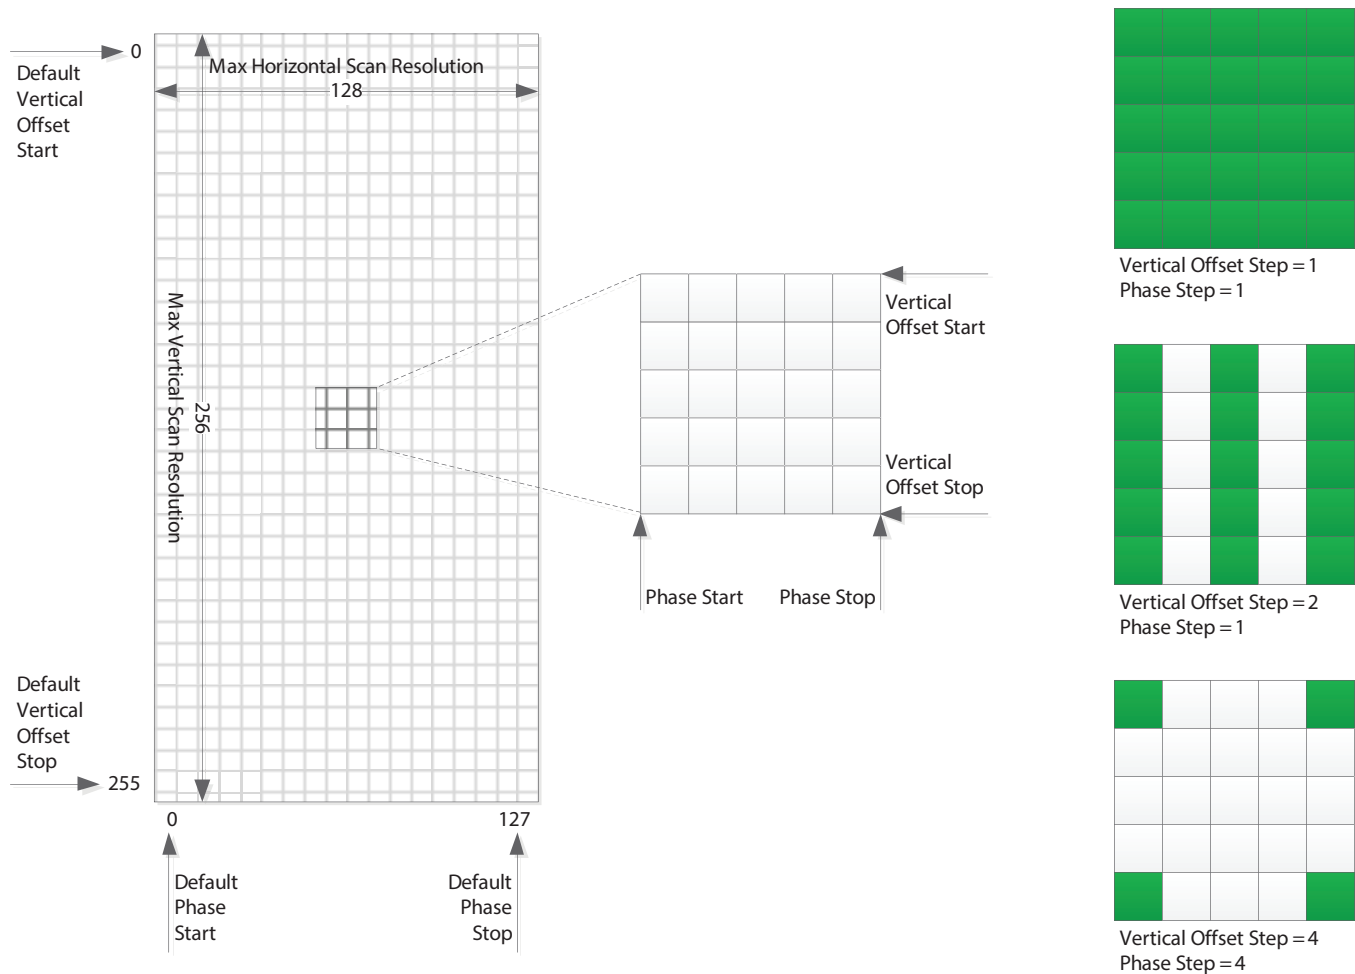

Figure 4-6: Eye Scan Matrix Parameters
Figure 4-6 shows a visual representation of the scan matrix and indicates the spatial parameters that determine the scan area and resolution. Running a scan using the default offset and step parameters, results in 32768 (128x256) samples. The number of samples and thus, the total scan time can be reduced to meet the needs of the application. The scan area can be reduced by reducing the span determined by the vertical and phase start and stop offsets, or the resolution can be reduced by increasing the step size between adjacent samples. On the right in Figure 4-6, there are three step settings used as examples, however there are a total of nine combinations possible. See Table 4-5 for the register addresses and parameter names of the spatial eye scan parameters.
- ♦ Making reference to the Matrix shown in Figure 4-6, the eye scan data starting at 0x6CC3 is stored in order from left to right, top to bottom, from the last stored vertical/horizontal position in the matrix.